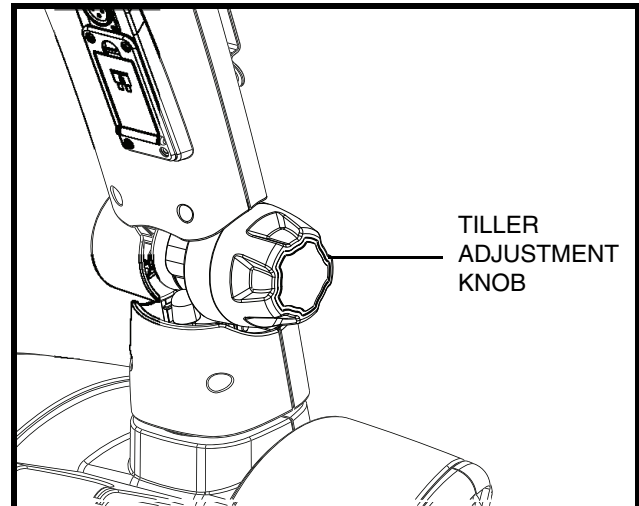

Figure 13. Tiller Adjustment
1. While supporting the tiller, turn the tiller adjustment knob counterclockwise to loosen the tiller. See figure 13.